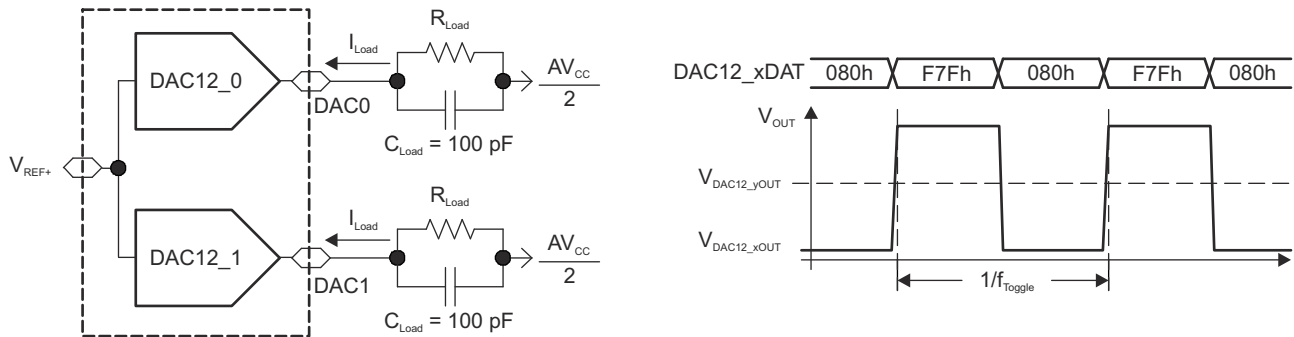

图 8-22. Crosstalk Test Conditions
| Channel-to-channelcrosstalk (1) (see 图 8-22)                                              | DAC12_0DAT = 800h, No load,DAC12_1DAT = 80h $\leftrightarrow$ F7Fh, $R_{Load} = 3\text{ k}\Omega$ ,$f_{DAC12\_1OUT} = 10\text{ kHz}$ at 50/50 duty cycle | 2.2 V, 3 V |     | - 80 |     | dB   |